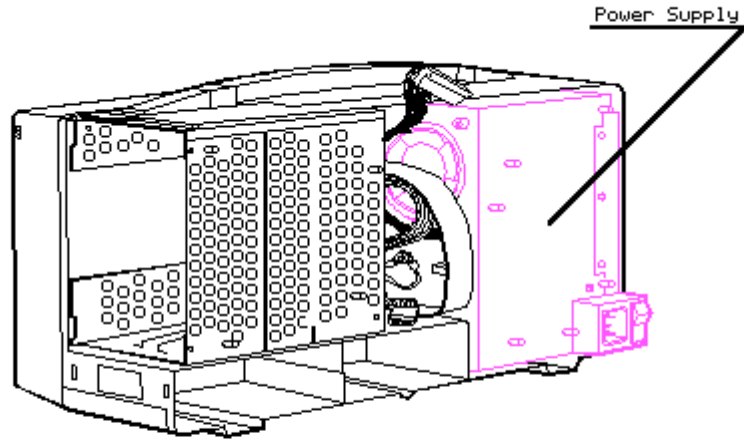

Figure 8-51. Power Supply Location
9. Locate the power supply shown in Figure 8-51.